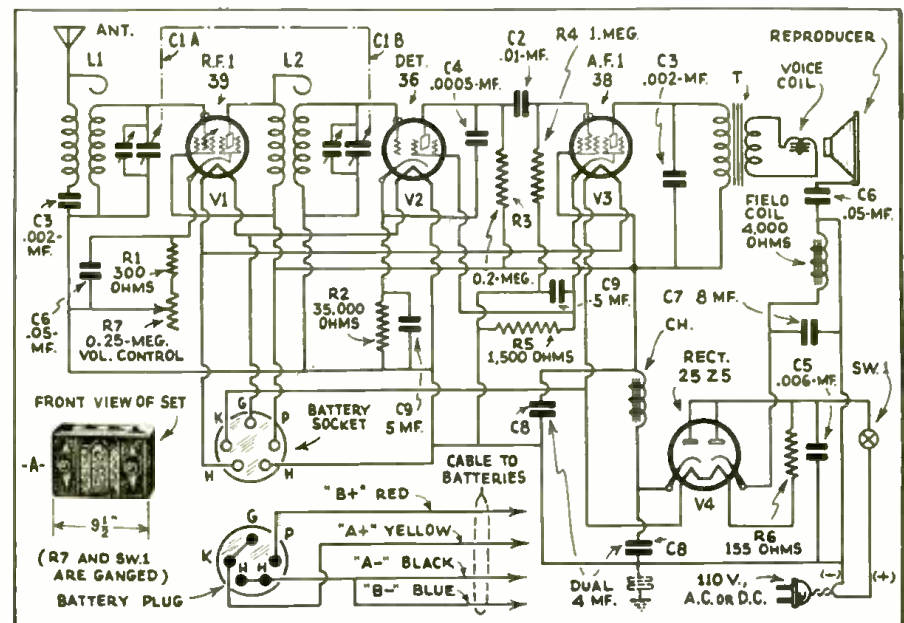

Fig. 1.
- (1) Wire all the filament terminals of the sockets, exactly as shown in diagram of Fig. 1.
- (2) Connect the cathode terminals to the filaments just as indicated.
- (3) Wire the socket plate terminals and follow the diagram.
- (4) Connect the control-grid terminals together as per diagram.
- (5) Wire the remaining grid connections as shown on the diagram.
- (6) Connect one end of the 7,000-ohm, wire-wound, pigtail plate-circuit resistor, R2, to the negative terminal of the meter. The other end of the resistor is connected to the plate terminal of the socket above the meter. Be careful not to bend the portion of the resistor leads colored brown or green, as you may break the thin wire connections and open circuit the resistor.
- (7) Connect the large 10-watt resistor, R1, according to the diagram.
- (8) Wire the multi-circuit jack switch,